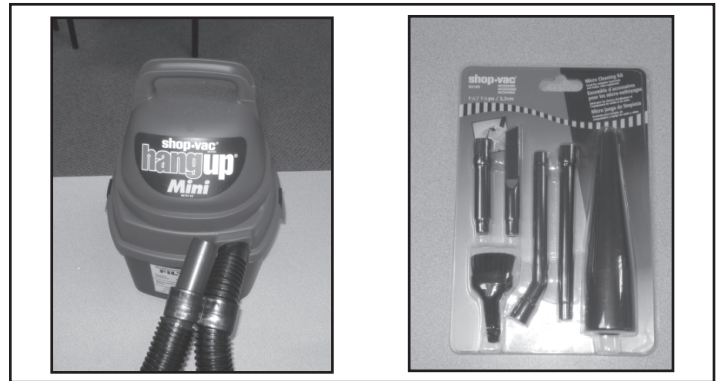

Figure 17.1 - Shop Vacuum and Micro Cleaning Kit examples - items that can be purchased at local hardware stores.
- Use the crevice tool to finish cleaning the heat exchanger fins. It is critical that the 2 exhaust exits at the back of the firebox floor (left and right) be thoroughly cleaned. **Figure 17.1** There are several ways this can be done: